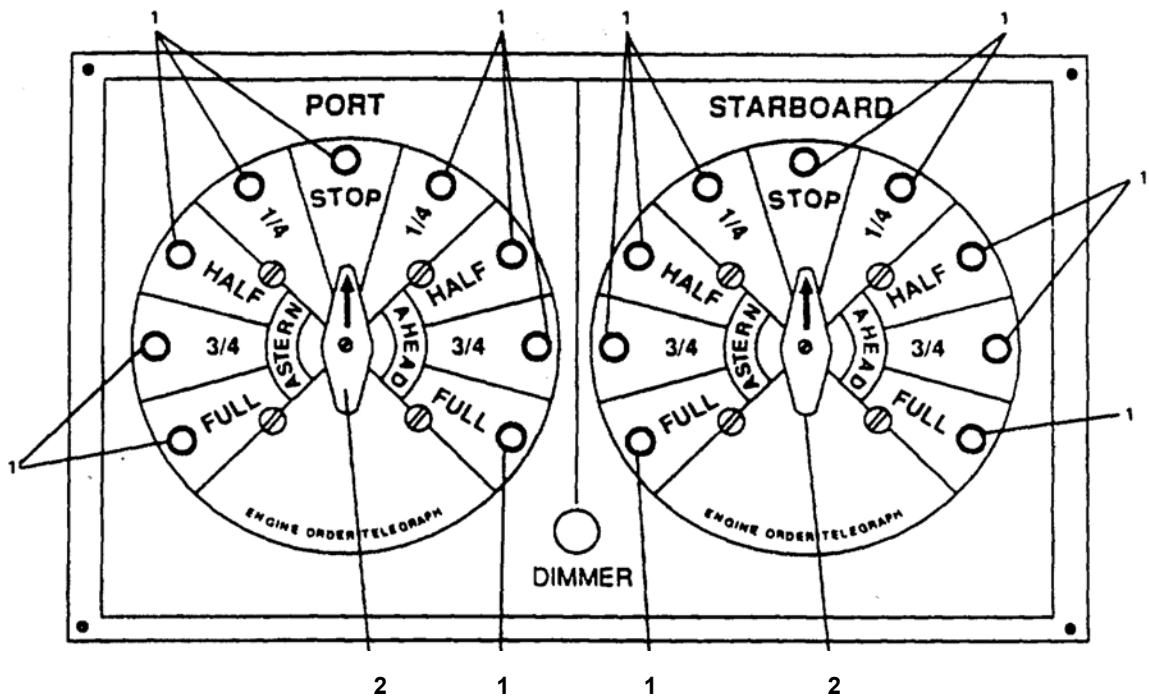

Figure 2-276. EOT Panel.
(1) *Pilothouse.* Order desired speed and direction for each engine by rotating EOT selector (2, Figure 2-276) to appropriate position.
• LED (Figure 2-276) will flash indicating desired speed and direction.
• LED (Figure 2-276) will continue to flash.